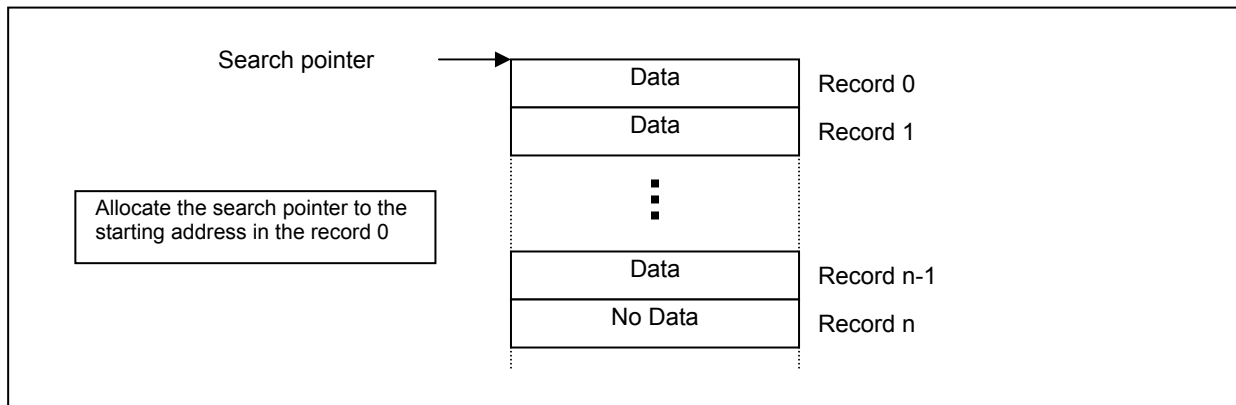

Figure 7. Allocate the Search Pointer to the Starting Address in the Record 0
- (1) Set the search pointer to the starting address in the record 0(Figure 7)